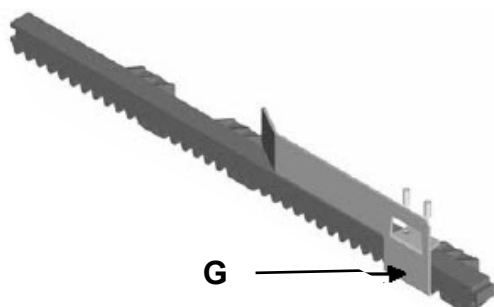

Fig. 4
- Check that the wheels ( **Fig. 4** ) used are suitable for the type of runner on the ground
Fasten the limit stop plates (Cams **G**) of the motor on the rack. (**Fig. 4**)